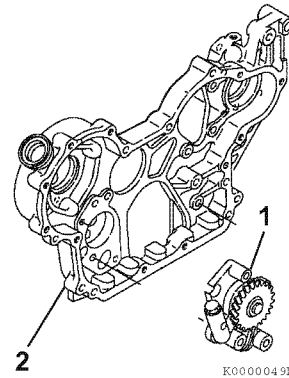

Figure 9-30
3. Reinstall the oil pump assembly (1, **Figure 9-30**) into the gear case housing (2, **Figure 9-30**). Tighten the bolts to specified torque.